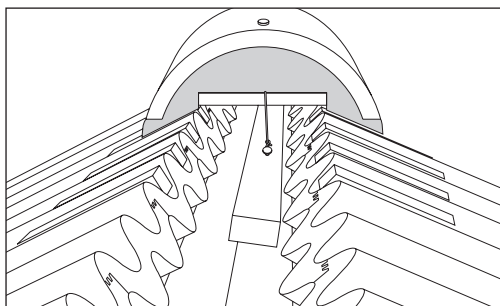

Fig 48 – Security Ridge fixing at gable ends
- Drive a nail into batten and attach a Security Ridge tile to it using the galvanised wire provided in tile (Fig 48).
- Use Security Hip tiles for a distance of 900mm from face of rigid masonry supports, abutments, or separating walls (see Fig 48, page 35).